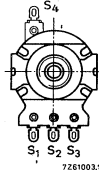
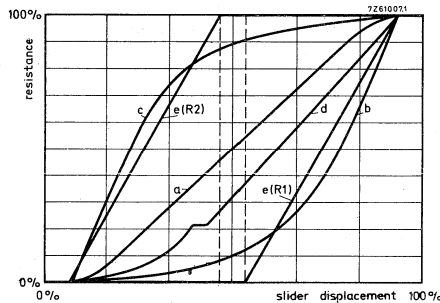

Fig. 1 Potentiometer viewed from the spindle end.
Fig. 2
Nominal resistance (R_N) - Nominal value of the resistance between the end terminals S_1 and S_3 , (Fig. 1) with the spindle in fully clockwise or counterclockwise position.
Resistance law - Relation between the displacement of the slider contact and the resistance between the end terminal S_1 and the slider terminal S_2 , R_{1-2} (Fig. 1). The control potentiometers are available with several resistance laws: linear (a; Fig. 2), logarithmic (b), reversed logarithmic (c), with tap (d), balance (e).
Terminal resistance - Resistance between the end terminal S_1 (Fig. 1) and the slider terminal S_2 with the spindle in fully counterclockwise position *).
Minimum resistance at the tap - Minimum adjustable resistance between the tap terminal S_4 (Fig. 1) and the slider terminal S_2 .
Maximum dissipation (P) - Maximum amount of power which can be dissipated at a given ambient temperature, when the potentiometer is continuously loaded between the end terminals S_1 and S_3 (Fig. 1) and mounted on a steel panel of $100 \times 100 \times 1.5$ mm.